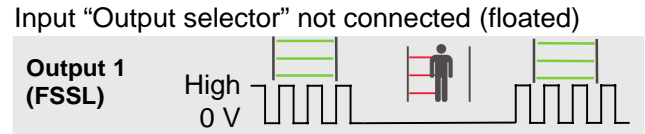

Figure 9: Principal timing diagram for the FSSL output
The default logic is Light ON (LO) (Figure 9). When an object enters the safeguarded area (OBJECT DETECTED), the FSSL output switches to LOW/GND (0 V). When the object leaves the safeguarded area (NO OBJECT) the frequency starts again.